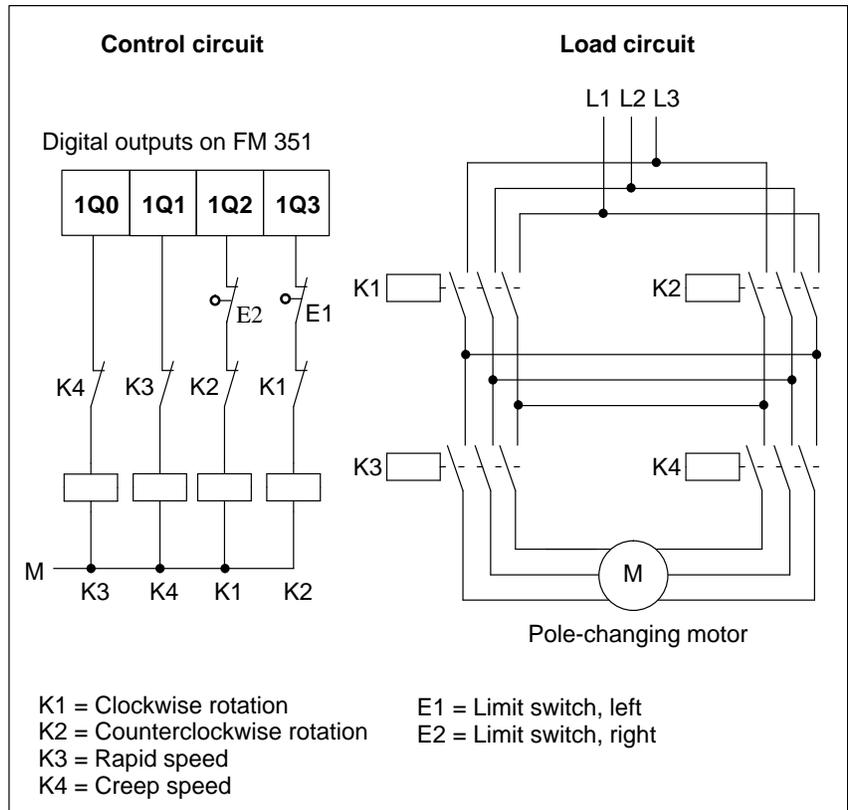

Figure 4-3 Contactor Circuit
**Contactor Circuit** In Figure 4-3 you can see the control and load circuits of a power controller. The functions of the digital outputs correspond to Control Mode 1.
Mutual interlocking of the line contactors is shown in Figure 4-3.